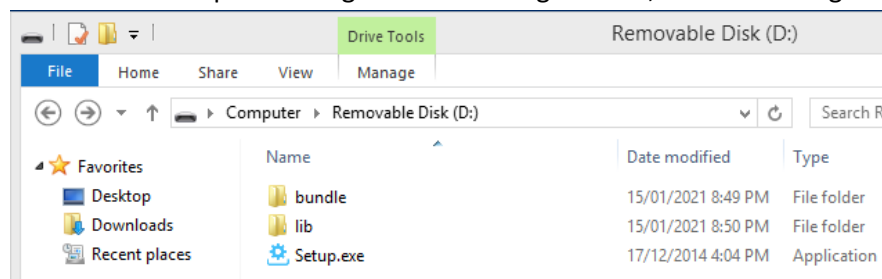

Figure 4 - Installation Files
2. Extract the ZIP file of service pack to target CNC or storage device, as shown in Figure 4.